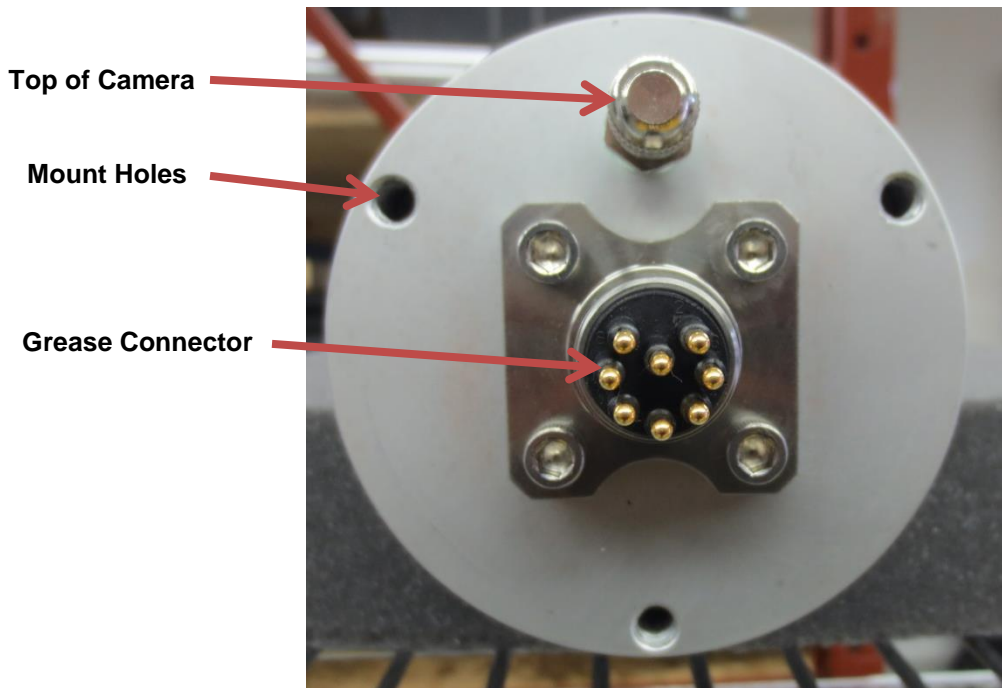

FIGURE 10: CAMERA ORIENTATION
3. The purge valve indicates the top of the camera, as shown in Figure 10. Mount the camera with the valve on top.